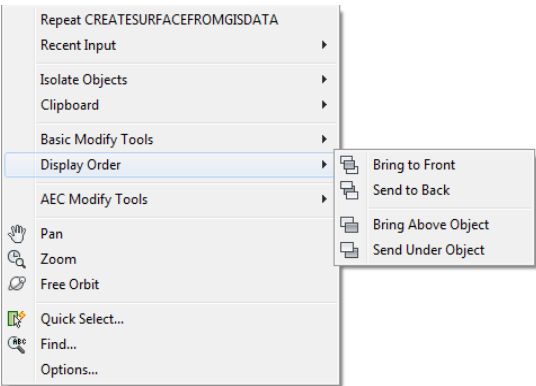

Figure 3-78 The flyout showing the *Display Order* options
- 6. To make the surface visible in the drawing, select the image and right-click; a shortcut menu is displayed. From the shortcut menu, choose the **Display Order** option; a flyout is displayed, as shown in Figure 3-78.